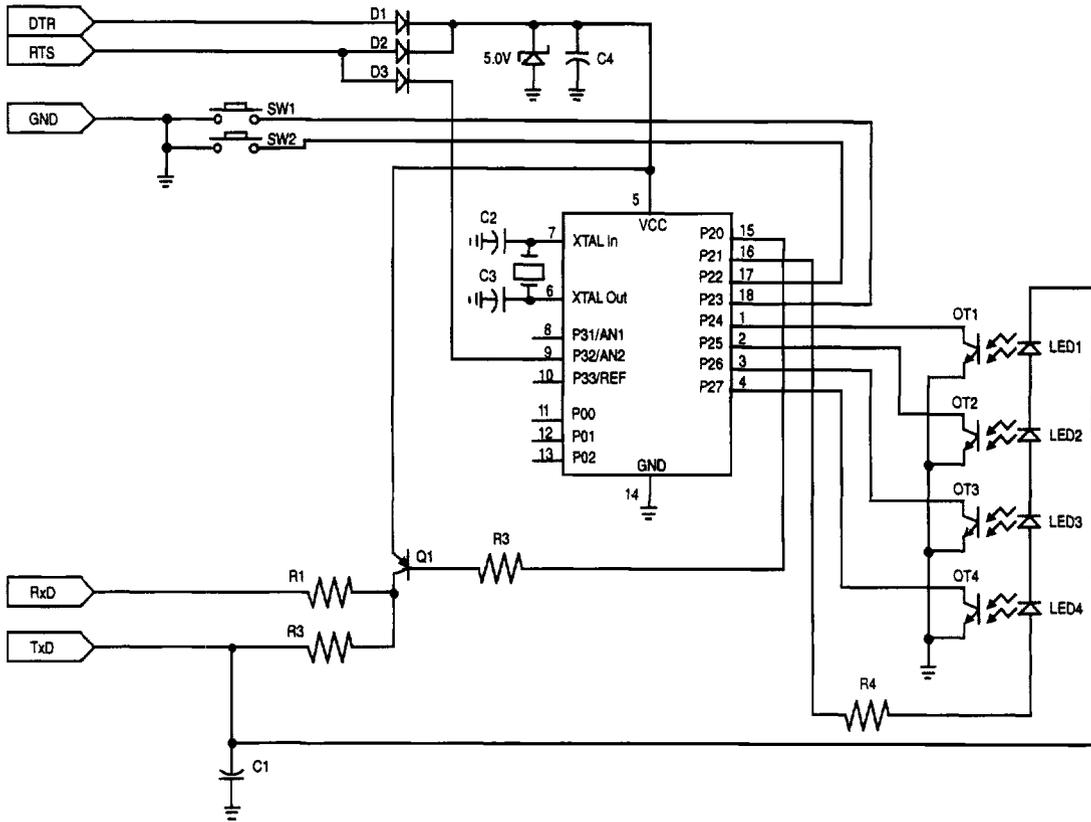

Figure 16. Circuit Diagram Of Z86C17 Two Button Mouse Application
**Mouse Application.** A typical mouse application circuit diagram is shown in Figure 16. The photo-transistors tie directly into the port lines of the Z86C17 and the microcontroller receives its power, ground and transmission capability from a standard RS232 line.